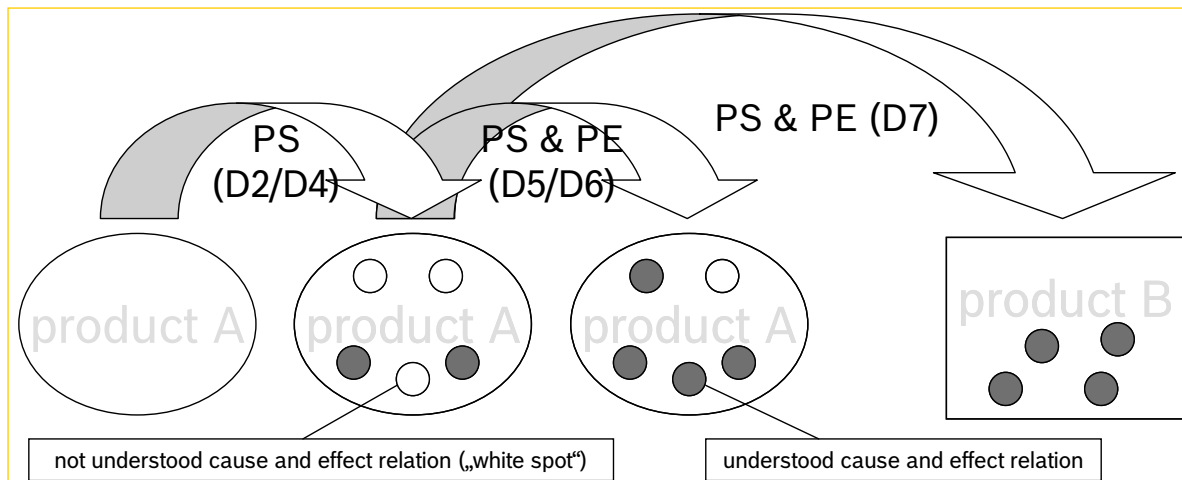

Fig. 5.5: Improved product understanding through problem solving (PS) and product engineering (PE)
This variety and complexity give rise to the special claim to resolving product problems with the necessity of understanding the collaboration. The procedure is therefore aimed at **understanding** the causes and their **functional relationships** and effects on the basis of **understood design** and **understood production processes** according to the principles of product engineering (PE) [PEHB10]. In problem solving (PS), areas of **cause-effect relationships** that have either not been understood or looked at to date (so-called "white spots") are identified (steps D2 and D4). As part of the solution (steps D5 and D6), the gaps in knowledge with respect to these areas are closed ("well understood cause-effect relationships") and transferred to other products and / or processes (step D7) (figure 5.5).